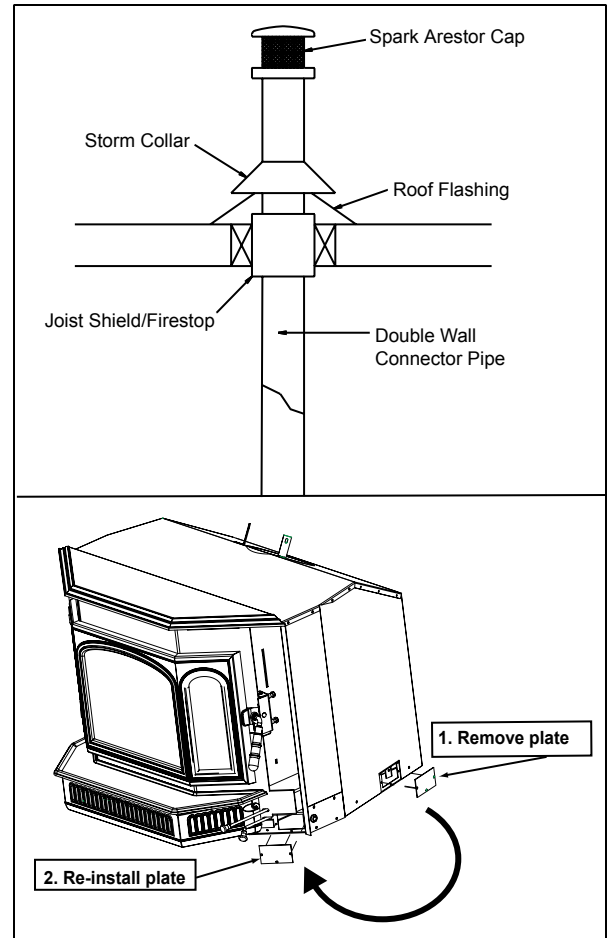

Figure 9A - Installing Outside Air
4. The factory-built fireplace must meet (UM)84-HUD requirements for outside combustion air supply to the fireplace fire chamber and the chimney must be listed to UL03 HT or a listed UL-1777 full length six inch (152mm) diameter liner must be used. It must be equipped with a spark arrestor cap and the outside air must be installed on the insert. **(See Figure 9A and installation instructions of page 13.)**